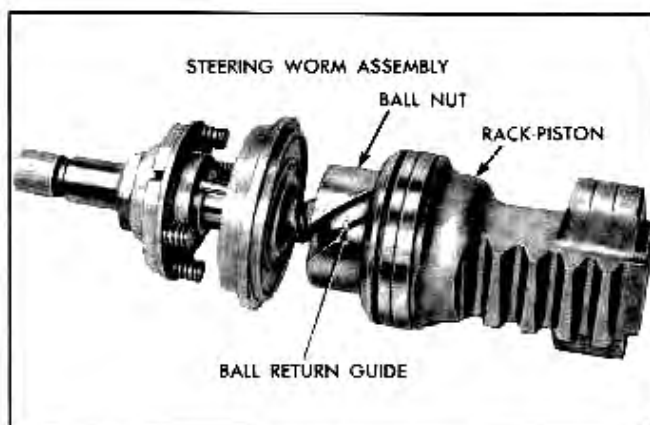

Fig. 9-36 Ball Nut and Steering Worm Assembly Removed from Rack Piston
2. Remove ball nut retaining screw and discard. Slide ball nut and worm assembly out of rack-piston with ball nut retaining screw hole down to prevent ball guide and balls from falling out. (Fig. 9-36) NOTE: If "weld" holding screw in piston interferes with screwdriver, chip to give clearance.